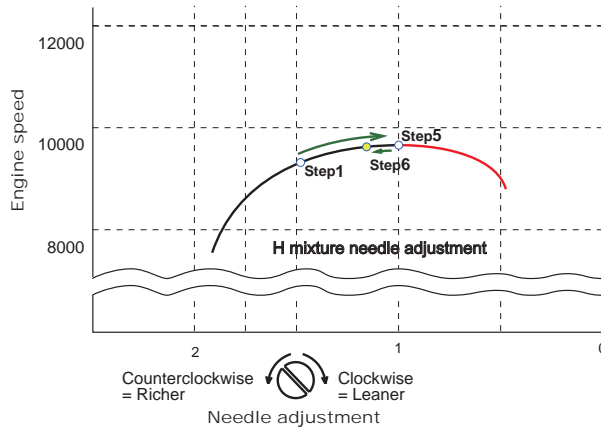

Fig.3: WOT setting
C. Wide Open Throttle (WOT) setting Fig.3
Step 6: Then turn H mixture needle(H) counterclockwise to decrease WOT speed or turn H mixture needle(H) counterclockwise by value shown in column “WOT setting: Fig.3 Steps 5 & 6”.
NOTE: Numeral with hashmark (#) like “#50” in column “Step 1: Initial setting, H mixture needle” on the **SERVICE DATA** is the size of fix main jet. The Carburetors on these models don't have adjustable H needles. Verify WOT engine speed ranges in column “WOT setting: Fig.3 Steps 5 & 6 : WOT engine speed (r/m) with standard pipe”